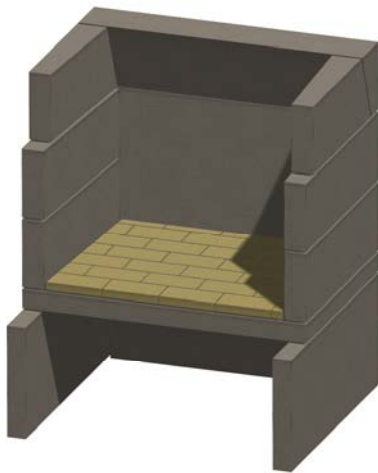

Figure 17. Floor Firebrick
I. Line the firebox, using split firebrick and 1/4-inch mortar joints. Install firebrick on the floor first, with 1/4-inch of Stone Age Multi-Purpose Ready-Mix or other high temperature mortar. See Figure 17.